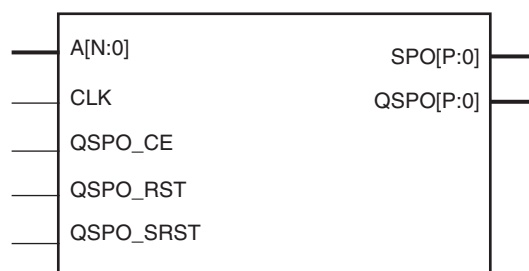
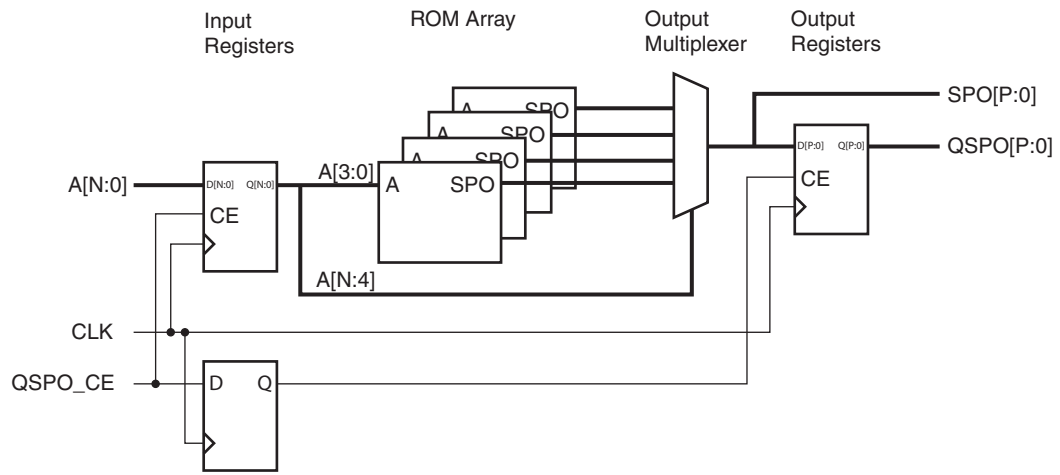

Figure 3-1: Distributed ROM Schematic Symbol
Figure 3-2: Distributed ROM Module Schematic
To create the distributed ROM, the core parses the initialization data provided by the user-supplied COE file. From that data, any necessary logic or optional registering is inferred and created. Figure 3-1 shows the distributed ROM schematic symbol, and Figure 3-2 illustrates one of the possible implementations of a distributed ROM core. For distributed ROM timing information, see the user guide for the specific FPGA family-related architecture.
- **ROM.** Figure 3-2 is a schematic of the structure of the ROM modules. The address register is optional (controlled by the setting of the Input Options parameter). Output registering is also optional (controlled by the setting of the Output Options parameter). Note that the clock is not required when these registers are not present. The resets and clock enables are optional.